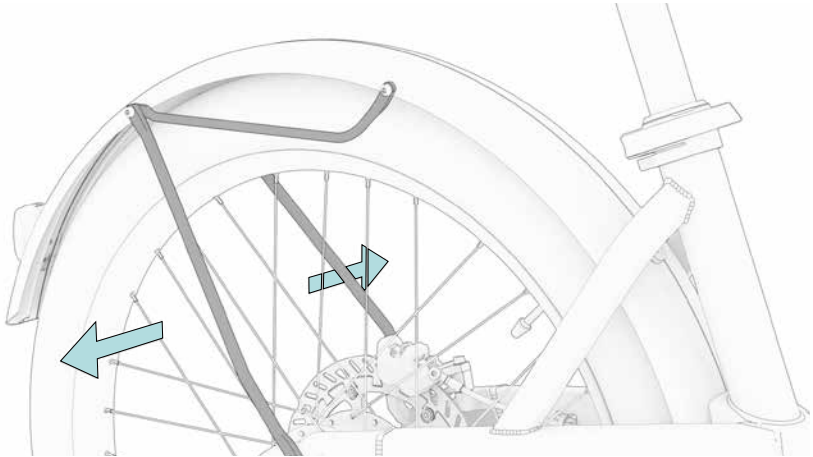

Fig. 5
The mudguard stays of the Hebie Wingee mudguard are mounted to three bolting points each on the left and right sides and are removed using a Torx 25 key to free up the bolting points for fastening the mudguard on the Rear Rack. Use the dedicated connection plate ③ for this (Figs. 5, 6, 7).